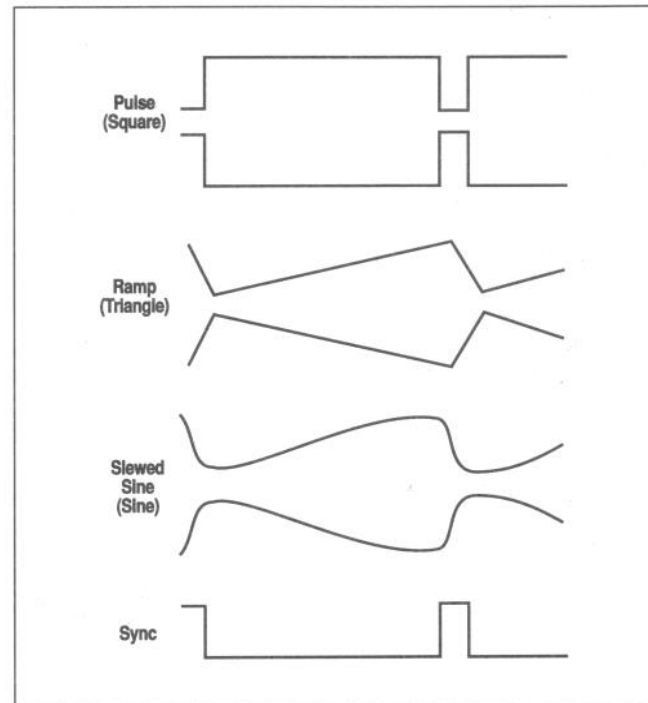

Fig. 4. Effects of symmetry variation.
The DUTY control can be used to alter the symmetry of the output waveform, to produce waveshapes such as those shown in Fig. 4. For a square wave, symmetry variation amounts to changing the duty cycle (ratio of "high" to "low" time), effectively converting the instrument into a pulse generator. For a triangular wave, the result is a ramp, and with a sine wave, a distorted waveshape called a slewed sine is produced. The model 3040 provides for symmetry variations from about 4:1 to 1:4; that is the duty cycle of a square wave can be varied from about 80% to about 20%.
2. With the DUTY control pulled out, a 1:1 symmetry is obtained near mid-rotation. Clockwise rotation results in an increase in square wave duty cycle, and changes in triangle and sine waves as shown in the top waveform of each pair in Fig. 4. Counterclockwise rotation results in a decrease in square wave duty cycle, and changes in triangle and sine waves as shown in the bottom waveform of each pair.